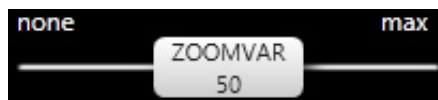

Figure 90 - ZOOMVAR Slider
2. Drag the **ZOOMVAR** slider (Figure 90) to adjust the degree to which the speed of the axis varies with the value of the zoom axis.